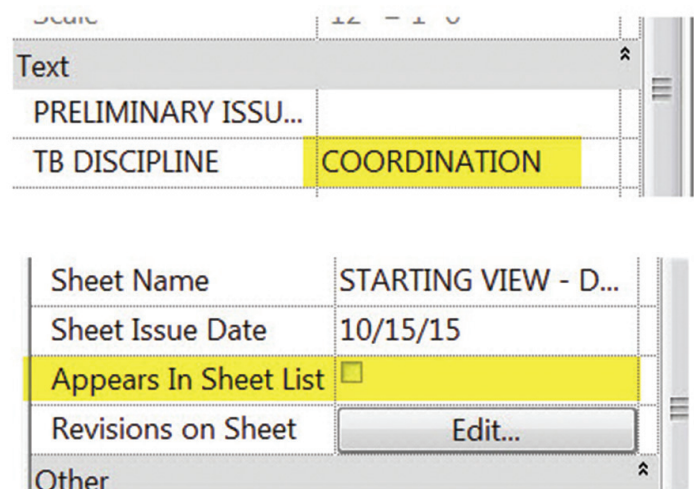

Figure 4: Properties of your splash page sheet
3. Place this “STARTING VIEW” onto your splash page sheet. No viewport label is needed so make sure you set that accordingly. You may also want to create a unique category for your sheet so it does not appear grouped with your construction documentation sheets. Also make sure your splash page sheet does not appear in your sheet list. Figure 4 shows these settings.